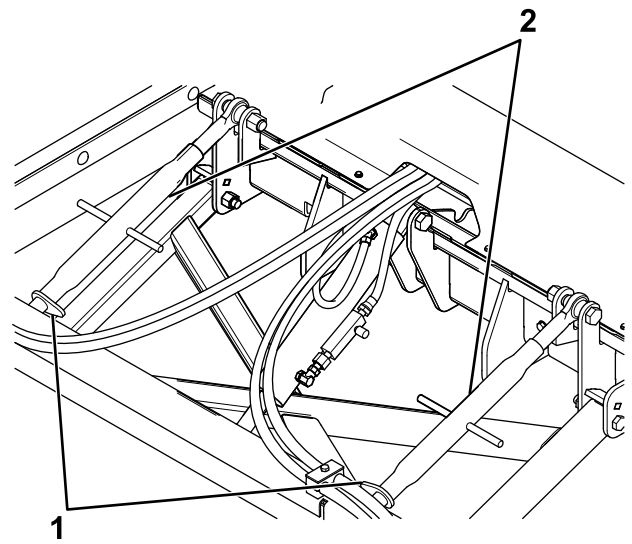

Figure 23
2. Loosen the top link locks (Figure 23).